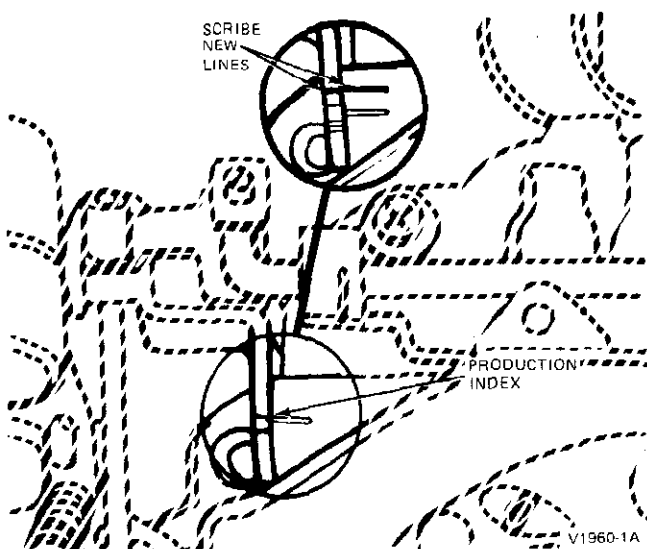

FIG. 28 Scribing New Index Line Before Removal of Air Horn Assembly
1. Before disassembly, scribe a line on both the pump operating lever and the carburetor air horn casting, with the throttle set at fast idle position (with the fast idle screw on the top step of the fast idle cam). See Fig. 28.